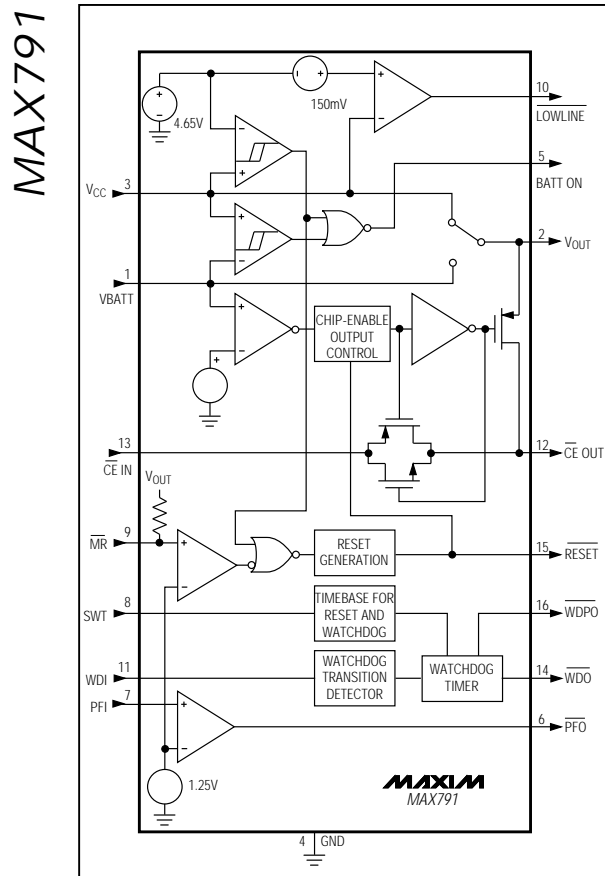

Figure 1. Block Diagram
Many  $\mu$ P-based products require manual-reset capability, allowing the operator or test technician to initiate a reset. The Manual Reset Input ( $\overline{\text{MR}}$ ) can be connected directly to a switch, without an external pull-up resistor. It connects to a 1.25V comparator, and has a pull-up to  $V_{\text{OUT}}$  as shown in Figure 1. The propagation delay from asserting  $\overline{\text{MR}}$  to  $\overline{\text{RESET}}$  asserted is 4 $\mu$ s typical. Pulsing  $\overline{\text{MR}}$  low for a minimum of 15 $\mu$ s resets all the internal counters, sets the Watchdog Output ( $\overline{\text{WDO}}$ ) and Watchdog-Pulse Output
The MAX791 provides internal gating of chip-enable (CE) signals, to prevent erroneous data from corrupting the CMOS RAM in the event of a power failure. During normal operation, the CE gate is enabled and passes all CE transitions. When reset is asserted, this path becomes disabled, preventing erroneous data from corrupting the CMOS RAM. The MAX791 uses a series transmission gate from the Chip-Enable Input ( $\overline{\text{CE IN}}$ ) to  $\overline{\text{CE OUT}}$  (Figure 1).